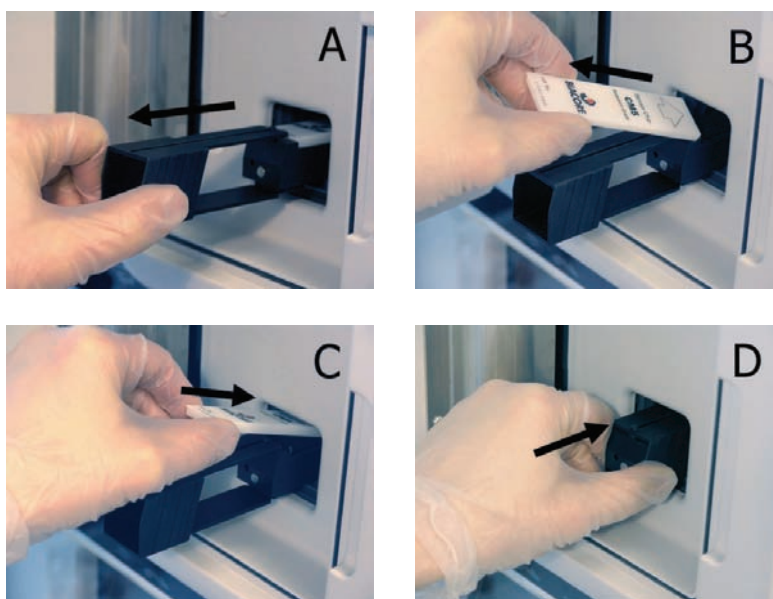

Figure 3-5. *Removing and inserting a sensor chip, step A-D.*
3. Pull out the chip slide, see Figure 3-5 A.
4. If required, remove the old chip, see Figure 3-5 B.
5. Insert the chip with the text on the upper side, see Figure 3-5 C.
6. Push the chip slide all the way in, see Figure 3-5 D.